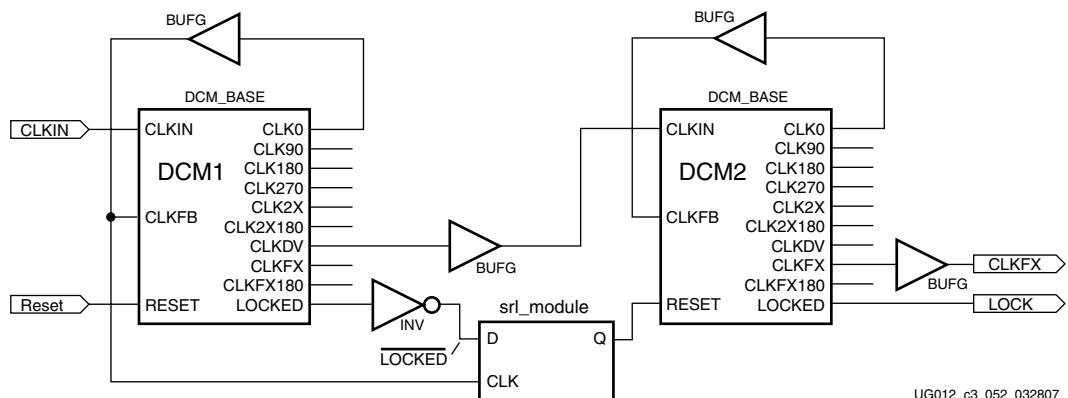

Figure 3-24: Cascading DCMs
- Use the LOCKED output from DCM1 to create a Reset for DCM2. The recommended length of a Reset pulse is three CLKIN cycles. The LOCKED signal from DCM1 could be inverted to $\overline{\text{LOCKED}}$ and used as the input to an SRL16, with the output of the SRL16 providing the Reset input to DCM2. Connect the output of DCM1 to CLKIN of DCM2 through a BUFG. Figure 3-24 illustrates this approach.